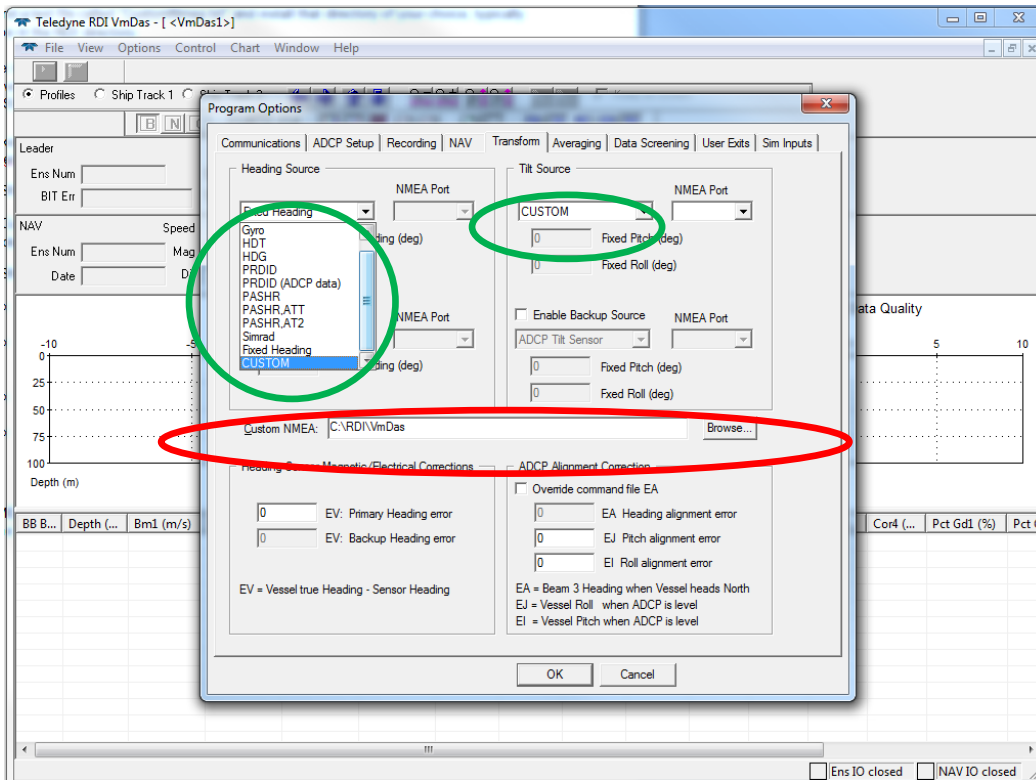

Figure 38. Using the Custom NMEA Feature
4. Click the drop down menu for the **Heading Source** and/or **Tilt Source** and select **CUSTOM** (see the green circles on Figure 38).
5. Set the path for the *CustomNmea.txt* file you created in Step "a" (shown in the red circle on Figure 38).